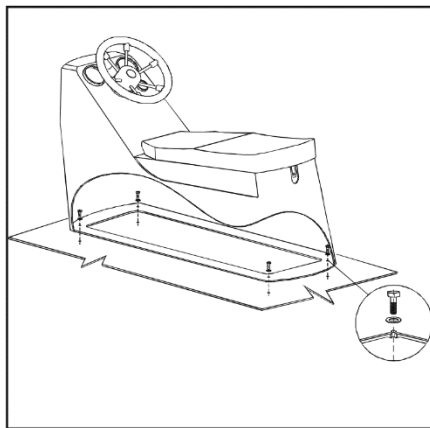

Fig. 9. Installation of steering console CS-01W/CS-03.
- Fix steering console to the deck by means of bolts M8\*25 and toothed lock washer (fig. 9).